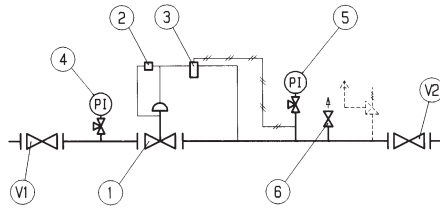

Fig. 14
**5.3 MESSA IN SERVIZIO DEL REGOLATORE APERVAL (FIG. 14)**
**5.3 COMMISSIONING THE REGULATOR APERVAL (FIG. 14)**
**5.3 INBETRIEBNAHME DES REGLERS APERVAL (ABB. 14)**
**5.3 MISE EN SERVICE DU DÉTendeur APERVAL (FIG. 14)**
**5.3 PUESTA EN SERVICIO DEL REGULADOR APERVAL (ABB. 14)**
**5.3 ACTIVAÇÃO DO REGULADOR APERVAL (FIG. 14)**